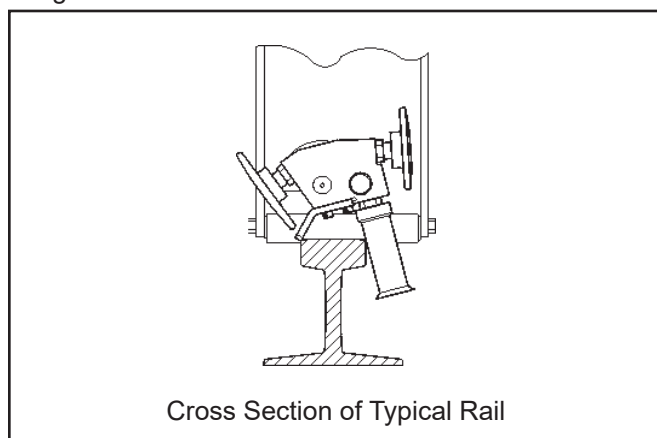

Figure 3. Profile Grinding
For profile grinding of rail, place the grinder on top of the rail with the rollers (91) resting on top of the rail to be ground. Adjust each wheel pivot (86) to the position shown in Figure 3. Grinding is accomplished by moving the grinder back and forth in line with the rail.